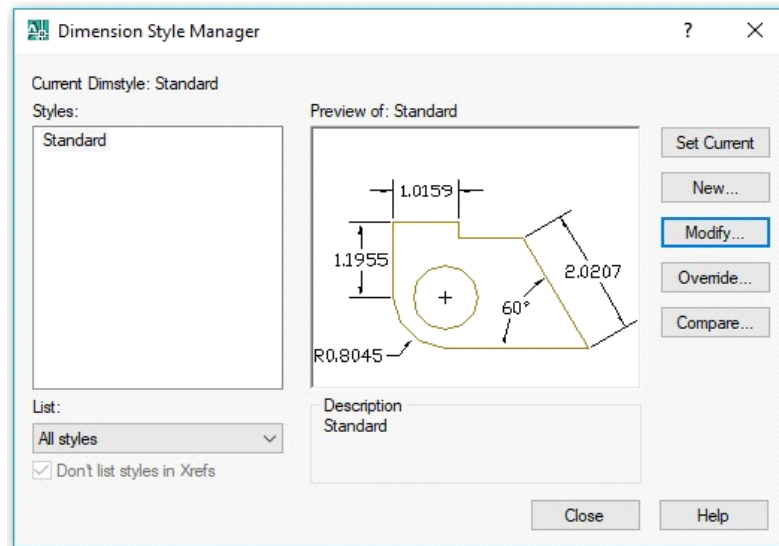

Fig. 1.3: Dimension Style
- Go to Format Dimension Style or type “d” in command line and press “Enter”. The “Dimension Style” dialogue box will appear as shown in Fig. 1.3.